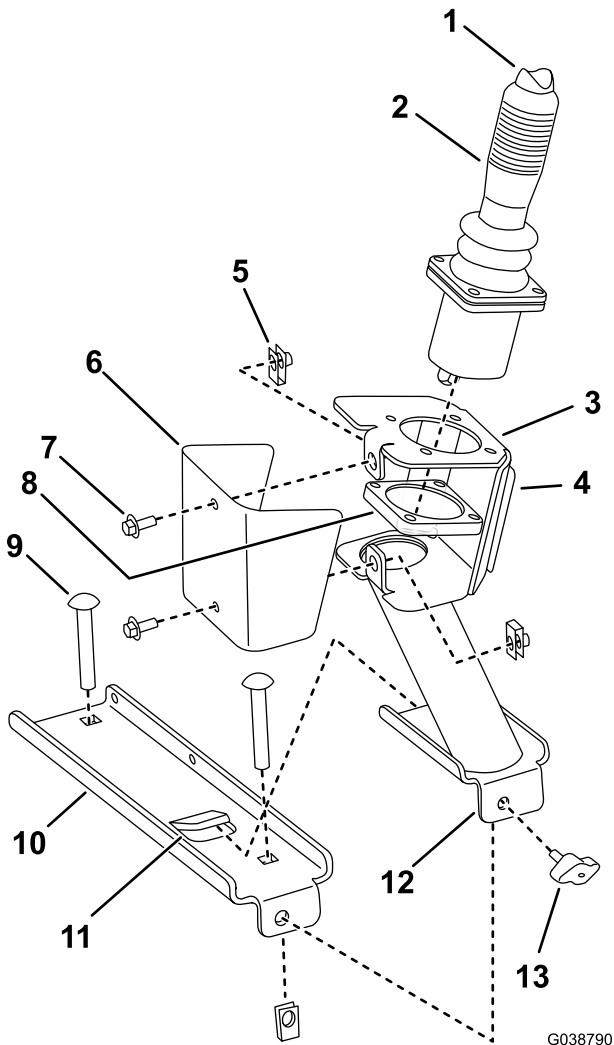

Figure 4
1. Assemble the joystick (Figure 4).
5. Apply the decal to the joystick pod (Figure 4).